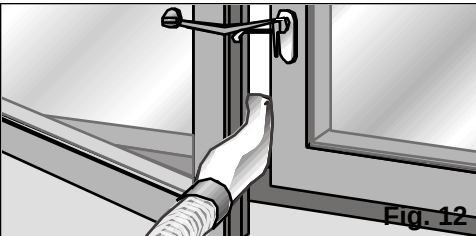

Fig. 12
- ☐ Close the window as far as possible and secure it with the suction pad supplied, **Fig. 12**.